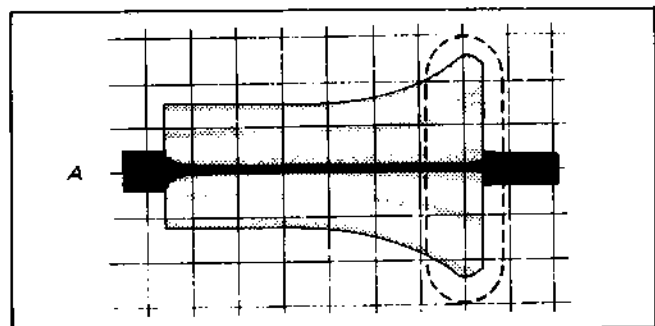

Fig. 4-12.
- When the waveform is outside this range and has the form shown in Fig. 4-12, turn the tilt adjustment screw clockwise to adjust until the waveform is within the required range.
- When the exit free waveform is outside of the required range and has the form shown in Fig. 4-13, turn the tilt adjustment screw counterclockwise to produce waveform A (Fig. 4-12), then turn it clockwise to bring the waveform within the required range.